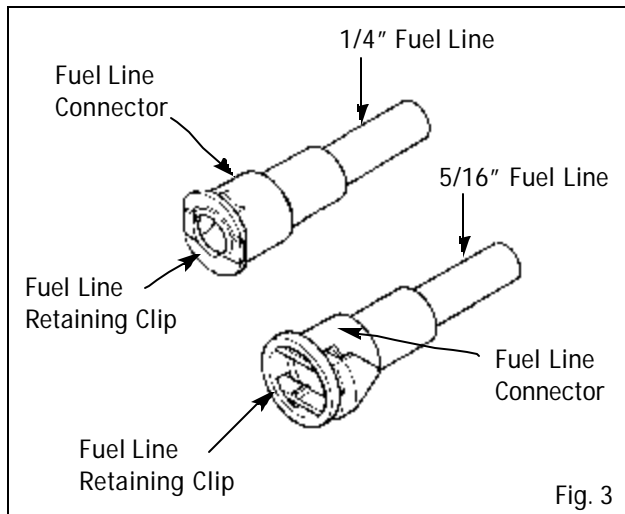

Fig. 3
2. Install the new fuel line retaining clips, 1/4" duckbill style and 5/16" hair pin style, into their respectively sized fuel line connector. With the 1/4" duckbill retainer properly installed, the serrated edges should protrude through the side opening of the fuel line connector. The 5/16" hairpin clip is installed with the triangular portion of the clip facing away from the fuel line connector opening. (See Fig. 3).